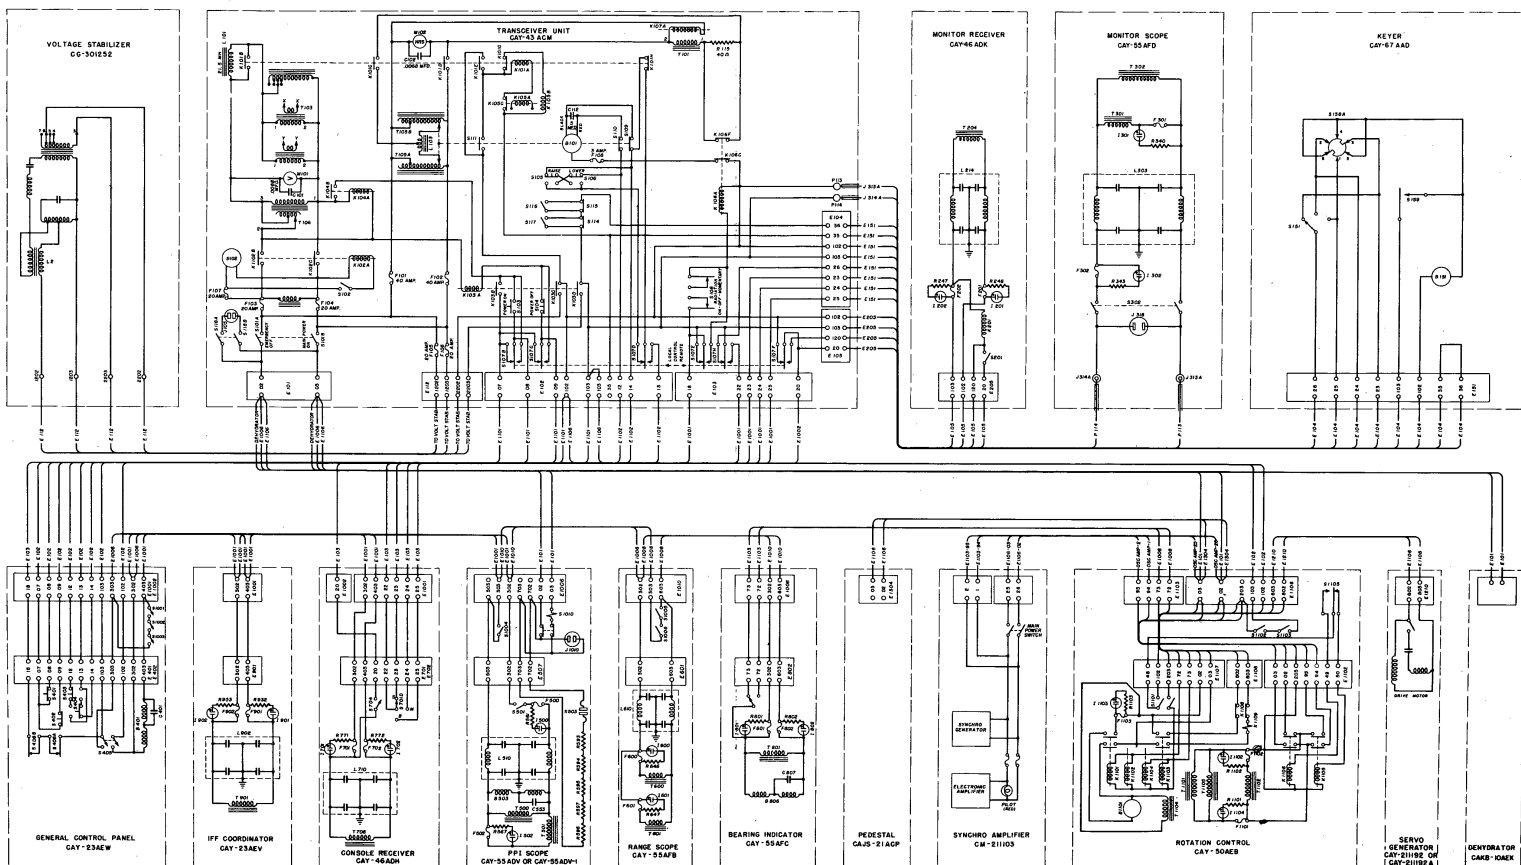
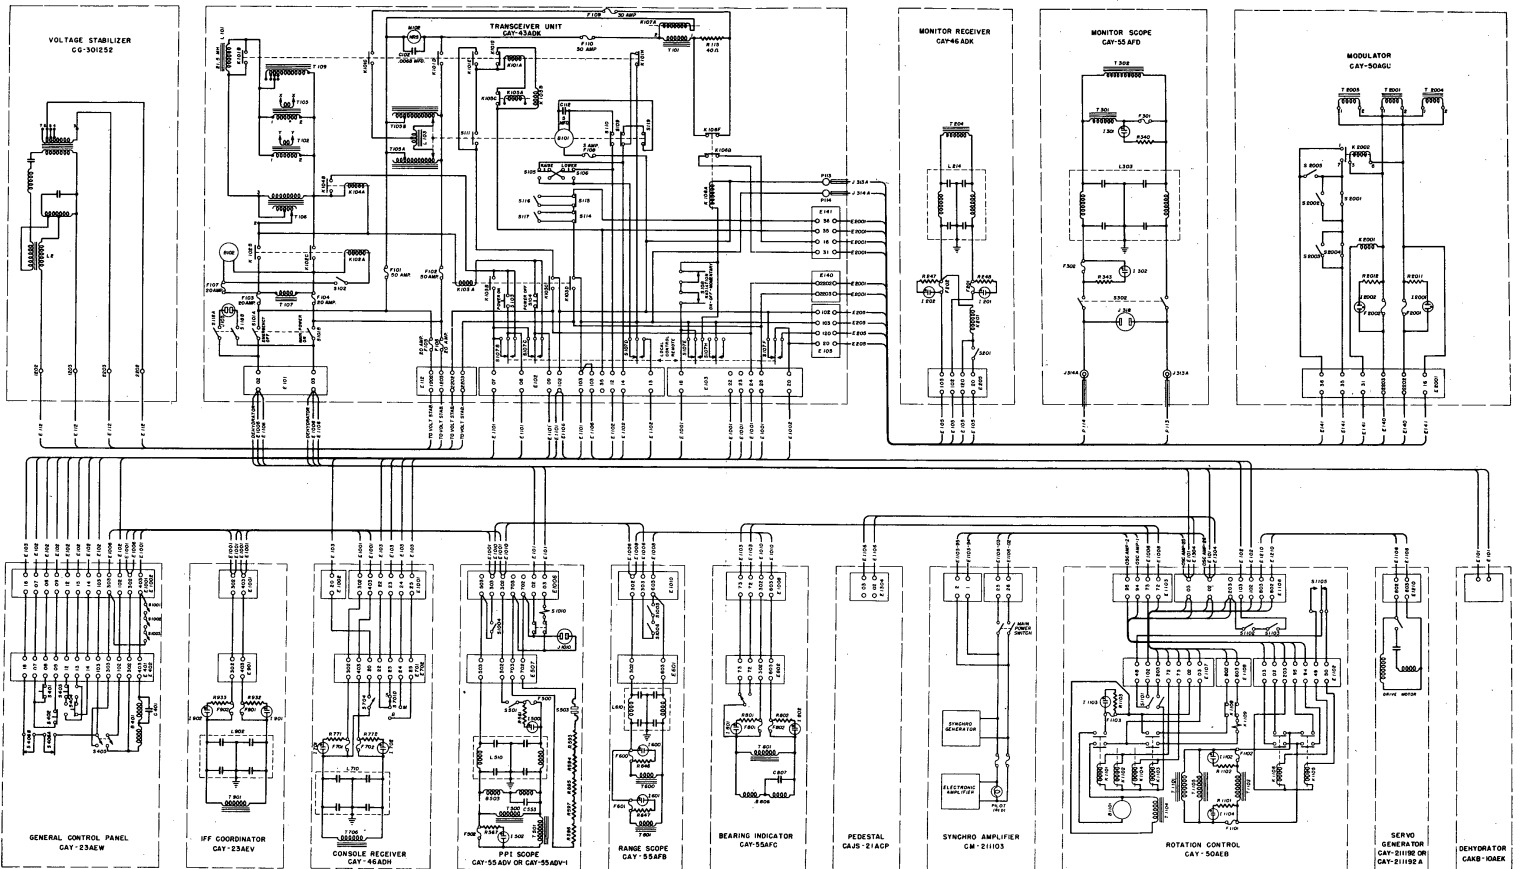

Figure 7-1. Primary Power Distribution Diagram, SR Equipment
Figure 7-2. Primary Power Distribution Diagram, SR-a Equipment
(1) System troubleshooting is based on the start-stop procedure of the equipment. The equipment is energized in the regular manner used to place it in operation, and the performance of each section and unit of the equipment is carefully noted. Meters, pilot lamps, fuses, cathode ray tubes, motor-generator, blower motors, and relays may be observed for indications of the location of the fault. Various supplementary tests may be used, such as checks on the voltages and waveforms obtained from external jacks and ohmmeter checks on the condition of interconnecting cables.
(2) In order to simplify the task of locating troubles, the SR Equipment may be considered as consisting of seven systems. These systems are:
(3) The action of some of the above systems is dependent upon the functioning of one or more of the others. For example, if there is no trigger output from the transmitting system to the indicating system the latter cannot function even though the transmitting system could conceivably be functioning properly in every other respect. A situation such as this requires accurate judgment, because at first it appears that the trouble lies in the receiving or indicating systems. Therefore in locating troubles to a particular section, it is necessary to observe all of the various sections, noting the way in which any of them fail to function. If the trouble is correctly located, much time can be saved which would otherwise be spent in uselessly checking voltages in components that would operate normally if they could receive the proper excitation voltages. After the defective section has been located, the defective component should be found. This can be done by measuring input and output voltages and by observing the various indications on the control panels. Another method is to slide the unit forward from the case and with the interlock switches closed, note whether the tubes are glowing and whether any part is overheated. Often the start-stop procedure directly discloses the identity of the defective component.
(4) To facilitate the location of defective sections and components, Figs. 7-1 and 7-2 show the primary power distribution diagrams for the SR and SR-a equipments. Fig. 7-3 is a servicing block diagram of the entire SR and SR-a equipments. Fig. 7-4 shows a servicing block diagram of the antenna positioning systems. These block diagrams show the signal paths to and from each unit, and an idealized waveform of the voltage is shown, so that by means of an oscilloscope it can be easily and quickly determined which section is at fault. Fig. 7-5 is an external cabling diagram and is used in conjunction with the other figures. Troubleshooting charts of each individual component are included in this section which graphically portray some of the most commonly expected troubles. After the defective unit has been located,
(5) Possibly the most common source of trouble is in the primary power circuits. The reason for this is that the continuity of the circuits is not only dependent upon the fuses and switches but also upon the various relay contacts, interlock switches, operating control switches, terminal board connections, cables, and cable connectors. All of the mechanically moving parts are subject to wear and, in the case of switches and relays, they are subject to the burning effects of electrical arcs between the contacts. Interlock switches may keep the circuits from functioning because a component may not be pushed all the way into its case and properly secured. The start-stop procedure in the following paragraph is a particularly effective method for locating troubles in the primary power circuits. However, it may be necessary to resort to more precise methods to actually locate the trouble. For this reason, Fig. 7-1 traces each circuit from terminal board to terminal board and also includes the primary windings of all power transformers.
(1) Close the Main Line Disconnect switch if it is open.
(2) Press the START button on the Push Button Station. This starts the Motor Generator and makes a-c power available at the Transceiver. This can be checked at receptacle J-105 on the Transceiver, using an a-c voltmeter. The Voltage at this point should be approximately 115 volts. If it is not, the trouble may be due to an improperly adjusted Voltage Regulator or incorrect Motor-Generator speed. The adjustments in each of these units are potentiometers. The methods of adjustment are described in Pars. 48c and 48d of this section. If no voltage reading is obtained, check the fuses in the line switch and check the input and output of the Motor Generator. Watch the action of the relays in the Magnetic Starter when the START button is pressed. If the Motor Generator runs but delivers no output, check the exciter and the Voltage Regulator. The meter on the Voltage Regulator should indicate 120 Volts. Another point to check is the commutator and brush assemblies in the Motor Generator.
(3) Place the PULSE LENGTH switch S-158 on the Keyer in its 20 position corresponding to a 20 microsecond pulse.
(4) Place the EMERGENCY-MAIN POWER switch S-101 in its ON position. This switch is on the Transceiver. The MAIN POWER ON and FILAMENT ON lamps should glow; relay K-102 should operate; blower motor B-102 should start; time delay relay K-104 should start its 5-second cycle; the oscillator filaments should heat up. These circuits are shown in Fig. 7-1. If the filaments and FILAMENT ON lamp do not glow, check switch S-102 in the oscillator compartment to see if it is open. If none of the above actions occur, check fuses F-103, F-104, and F-107 and also the interlock switches S-116 and S-117. For the location of the interlock switch circuits see Fig. 7-1.
(5) Place the LOCAL-REMOTE switch in its LOCAL position. LOCAL CONTROL lamps, I-102, on the Transceiver and I-401 on the General Control Unit should glow. If the pilot lamps mentioned in steps (1) to (3) do not glow when their circuits are energized, check the output between terminals 1 and 3 on transformer T-107. If any one of the lamps fails to glow, the fault lies in the circuit that energizes the lamp or else the bulb or socket is defective.
(6) Press the POWER ON switch S-103. This switch is on the Transceiver. If time delay relay K-104 has operated, relay K-103 should now be heard to operate. If this relay does not operate, check the LOCAL-REMOTE, POWER ON, and POWER OFF switches and the relay. When relay K-103 operates, it makes power available from the Voltage Stabilizer to the Indicator Console and also, to the time delay relay in the Modulator, if the equipment has been modified to SR-a equipment. K-103 also applies power to relay K-101 in the SR Equipment. In the SR-a equipment, time delay relay K-2002 in the Modulator must also close before K-101 can be energized. This requires five minutes. If relay K-101 does not operate, check both relays, the upper limit switch and overload relay K-105. See Fig. 7-1. The SR-a circuits are shown in Fig. 7-2. The upper limit switch is located on the cam assembly behind the lower left-hand door on the Transceiver. If transformer T-105 has not been rotated far enough by motor B-101 to close switch S-111, check relay coil K-105B and contacts K-101G and K-101H on relay K-101. These circuits may fail to function because of the absence of energizing voltage. This can be checked by placing the INDICATOR CONSOLE switch in its ON position and noting whether the Indicator Console components are energized. This switch is on the General Control Unit. If power is not available at the Indicator Console, check the input and output voltages of the Voltage Stabilizer. Also check the interconnecting cabling and the terminal boards.
(7) Place the ON-OFF switch S-302 on the Monitor Scope in its ON position. Check the fuse warning lamps. If they are glowing replace the fuses. If a replaced fuse burns out, look for a short circuit in the Monitor Scope. The presence of input voltage to the Monitor Scope can be checked at receptacle J-318 with an a-c voltmeter.
(8) Place the Indicator Console switch in its ON position if it was not left on in step (6). Fig. 7-1 shows the circuits energized by this switch. Blower motor B-401 in the General Control Unit and blower motor B-806 in the Bearing Indicator should start. If they do not start, check relay K-103 in the Transceiver. Check the a-c power circuits back to the Voltage Stabilizer as previously described if necessary. Check the fuse warning lamps on all units except the PPI Indicator. If a lamp is glowing, replace the fuse associated with it.
(9) Place the ON-OFF switch S-501 on the PPI Indicator in its ON position. Check the fuse warning lamps and replace the fuses if the lamps are glowing. Blower motor B-503 should start. If the motor does not start, check the interlock switches.
(10) On SR equipments press the RAISE switch S-105 until PLATE VOLTAGE Meter M-103 registers 8 kilovolts. If the equipment is SR-a equipment see step (14) and continue from there.
(11) Place the RADIATION switch S-108 on the Transceiver in its ON position. This should operate relay K-106.
(12) Momentarily press the RAISE switch S-105 at brief intervals, bringing the oscillator plate voltage up by easy stages to 11 kilovolts as indicated on the